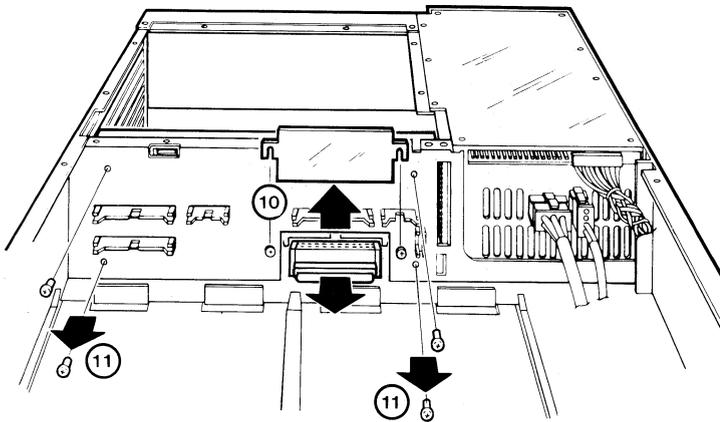

Figure 6-19 Removing the Backplane
12. Pivot the CD side of the backplane assembly 45 degrees toward the rear and lift it straight up (Figure 6-19).